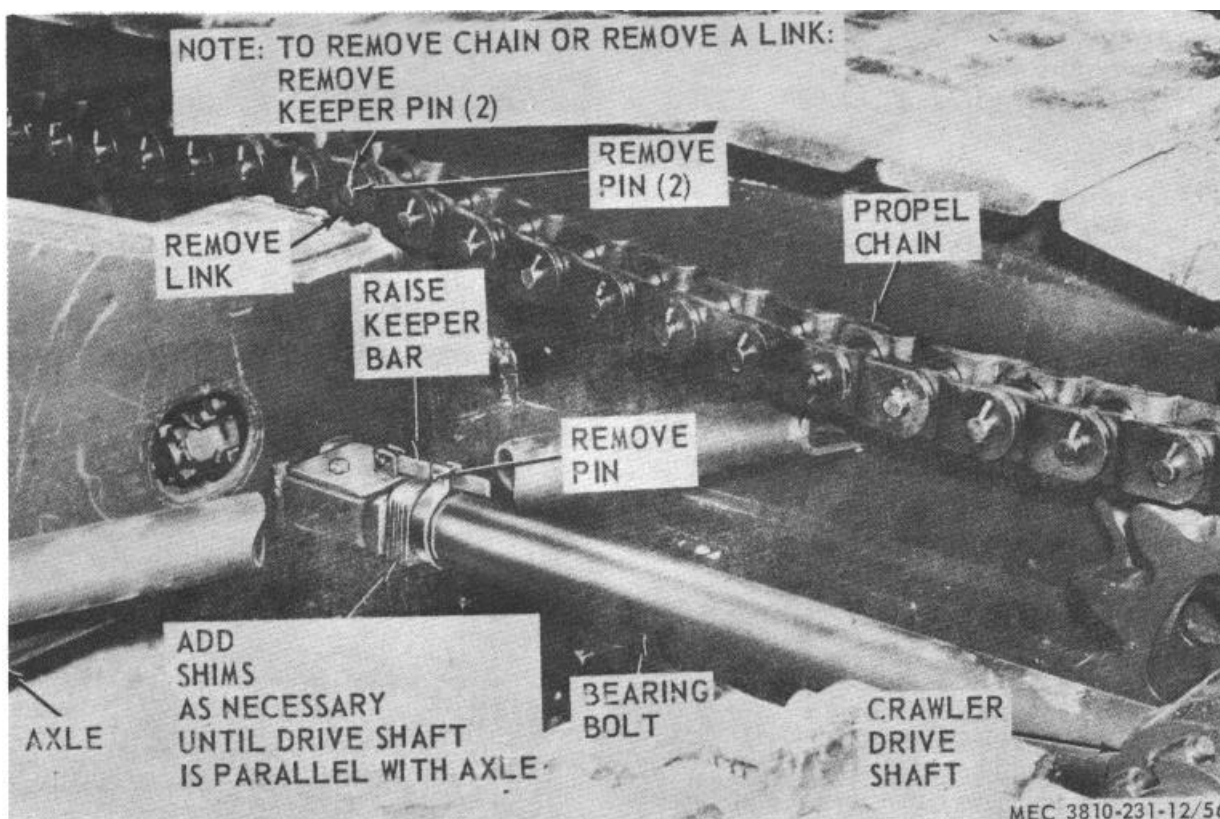
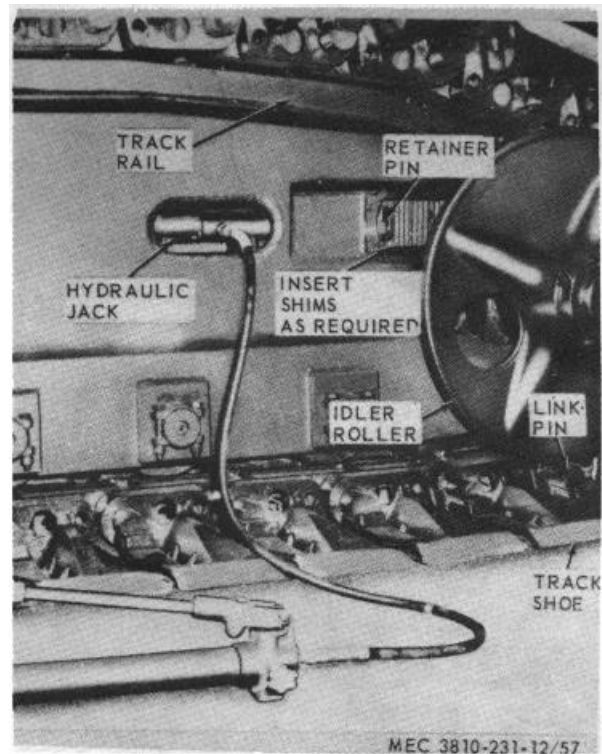

Figure 56. Propel chain adjustment, removal and installation.
Figure 57. Crawler track ten-in adjustment.
- (1) Propel the machine in a backward direction for at least the length of the crawler frame. This will place all of the slack in the propel chain on top (fig. 56). The hand holes provided in the idler roller must be opposite the adjusting nut.
- (2) Remove the retainer pin (fig. 57) and remove several of the shims, securing the idler roller assembly, to relieve the crawler belt tension.
- (3) Insert a hydraulic jack into the hole in the crawler frame in front of the drive shaft assembly. Increase the tension on the propel chain until the slack of the chain can be raised approximately 1 1/2 inches minimum to 3 inches maximum.
- (4) Add shims (fig. 56) on bearing bolt until the drive shaft is parallel to the axle. Install the keeper bar to lock the shims in place.
- (5) Adjust crawler track tension (para 108).
b. Removal and Installation. Remove and install propel chain as instructed in figure 56.
- (1) Clean all parts in an approved cleaning solvent and dry thoroughly.
a. Adjustment (fig. 57).
- (1) Propel the machine in a forward direction at least the length of the crawler frame. This will place all of the slack on top of the crawler belt.
- (2) Insert a hydraulic jack in the hole of the frame.
- (3) Apply tension to the crawler belt until the link pins are resting firmly against the idler roller and a dip in the crawler belt of approximately 1 1/2 inches is maintained at the ends of the track rail.
- (4) Secure the adjustment by inserting shims as necessary.
- (5) Secure shims with retainer pin and remove hydraulic jack.